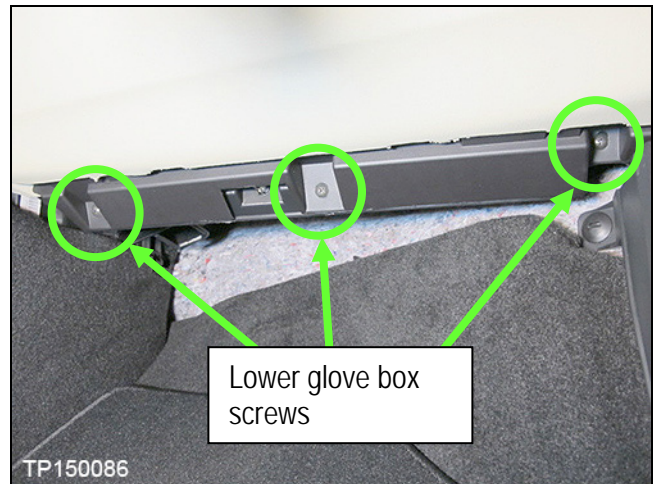

Figure 16
- f. Install the 3 lower glove box retaining screws removed in step 5 (Figure 16).